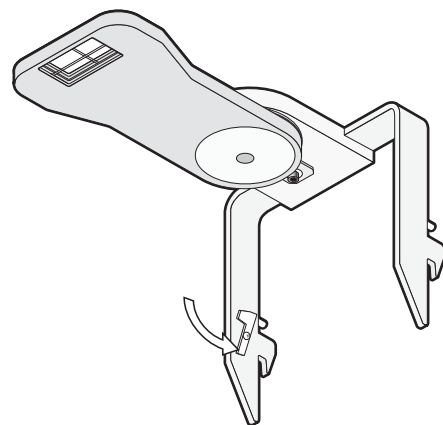

Figure 4-8: Crosshair Locking Levers
2. Press the two locking levers inside each mounting arm. See Figure 4-8.